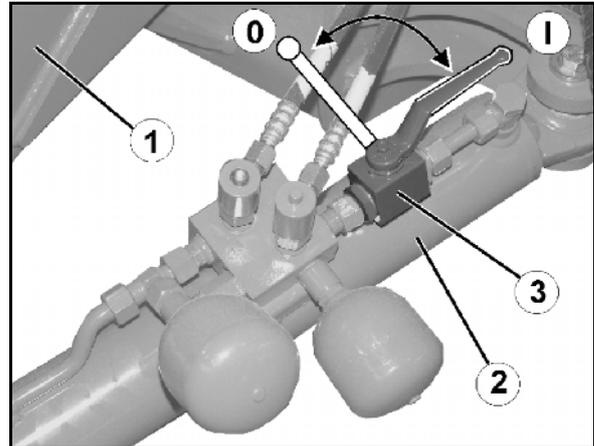

Fig. 90
4. Secure the steering draw bar (Fig. 90/1) by closing the stop tap(Fig. 90/3) in position **0**